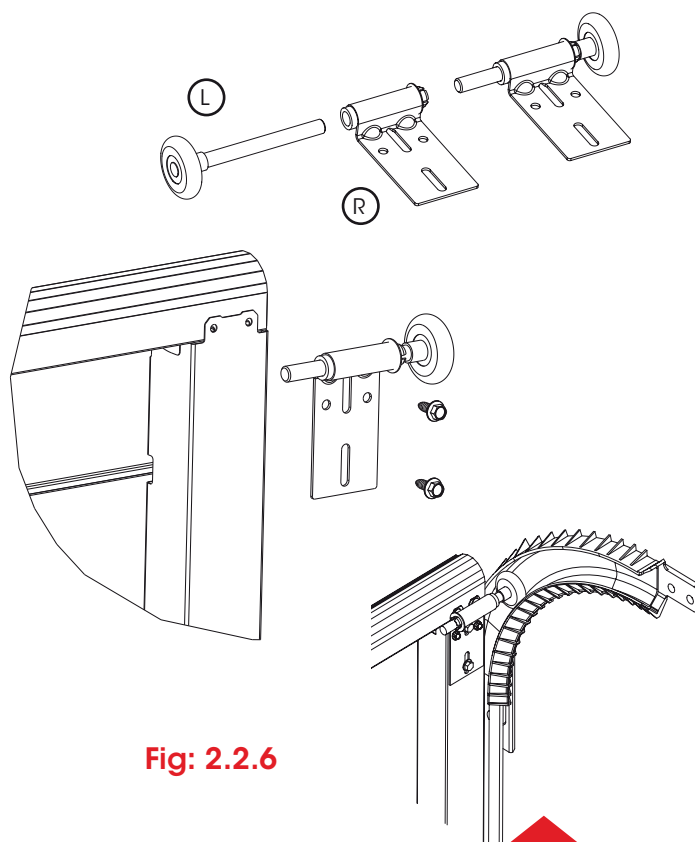

Fig: 2.2.6
- i) Insert the appropriate wheel axle (L) (standard, extended or smooth track) into the top hanger (R) Fig 2.2.6.